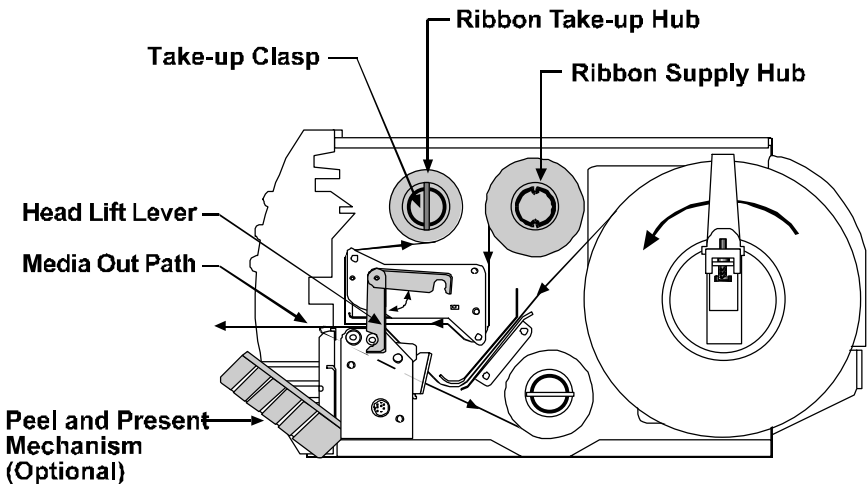

Figure 1-8 Ribbon Loading
2. Slide the Ribbon on to the Ribbon Supply Hub. Route the ribbon, (see Figure 1-8), and attach the ribbon to the Ribbon Take-up Hub.